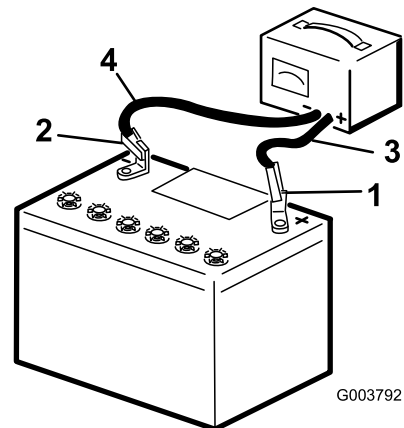

Figure 46
3. Connect the positive lead of the battery charger to the positive battery post (Figure 46).
4. Connect the negative lead of the battery charger to the negative-battery post (Figure 46).
6. When the battery is fully charged, unplug the charger from the electrical source, then disconnect the charger leads from the battery posts (Figure 46).